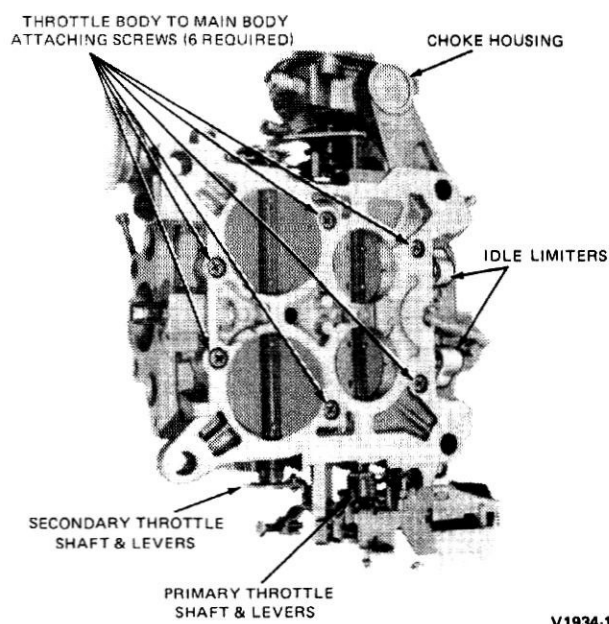

FIG. 33 Throttle Body Bottom View
1. Remove the throttle body to main body screws from the bottom of the throttle body (Fig. 33) and separate the two castings.